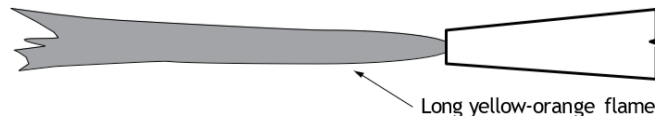

Figure 5 – Acetylene only flame (BC Industry Training Authority, 2019). CC BY-NC-SA 4.0 (<https://creativecommons.org/licenses/by-nc-sa/4.0/>)
4. Set the striker aside and adjust the acetylene valve until the flame becomes turbulent and stops giving off black smoke (Figure 5). Another method is to slowly adjust the valve until there is a gap between the tip and the flame. The flame should be yellow-orange.